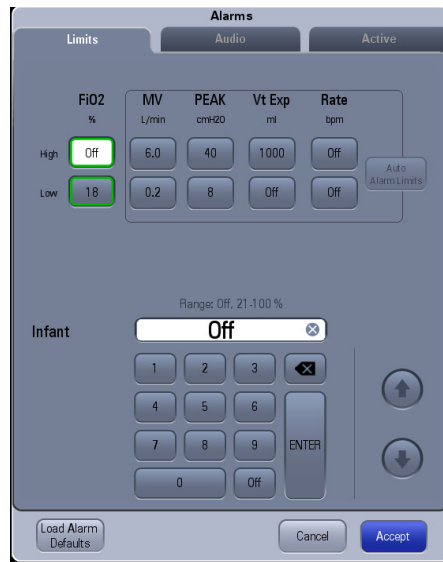
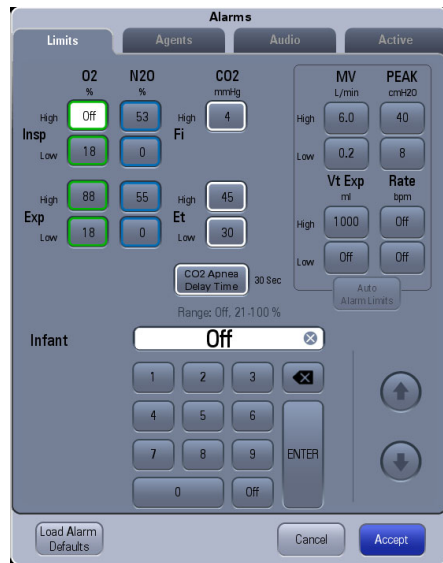
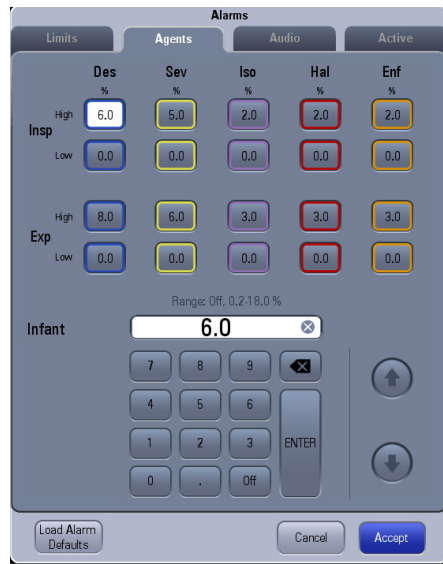

FIGURE 6-7 Limits tab in the Alarms Window (without AG module connected)
FIGURE 6-8 Limits tab in the Alarms Window (with AG module connected)
FIGURE 6-9 Agents tab in the Alarms Window (with AG module connected)
2. Select the **Limits** tab or **Agents** tab. (see FIGURE 6-7, FIGURE 6-8 and FIGURE 6-9.)
2. Select the **Limits** tab. (see FIGURE 6-7 and FIGURE 6-8)